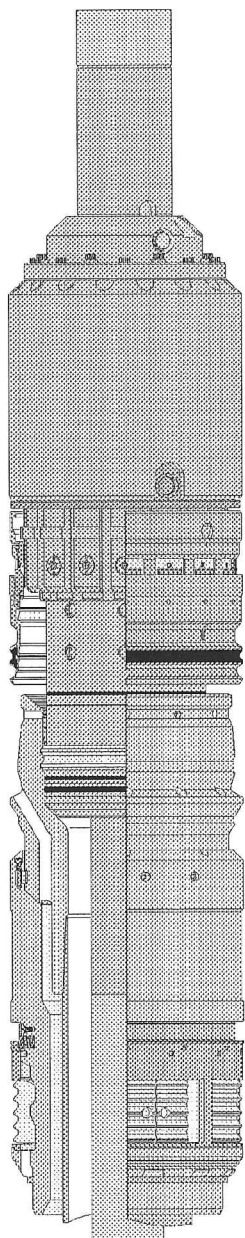

Figure 20. Running Tool, Seal Assembly, and Casing Hanger made up as a unit
16. Paint a vertical alignment mark down the side of the Running Tool and Casing Hanger, but do not paint on the seal surfaces of the Seal Assembly and Casing Hanger. The Running Tool, Casing Hanger, Seal Assembly, and wiper plugs are now properly made up as a unit and ready to be run into the 18-3/4" Wellhead Housing. Refer to **Figure 20**.